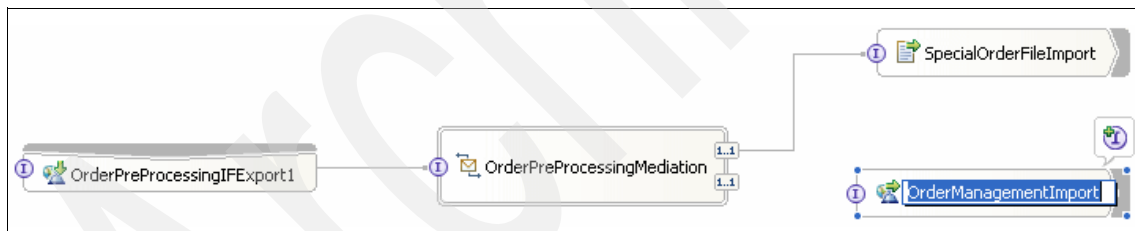

Figure 7-29 OrderPreProcessing assembly diagram
5. Rename the import component OrderManagement Import as shown in Figure 7-29.